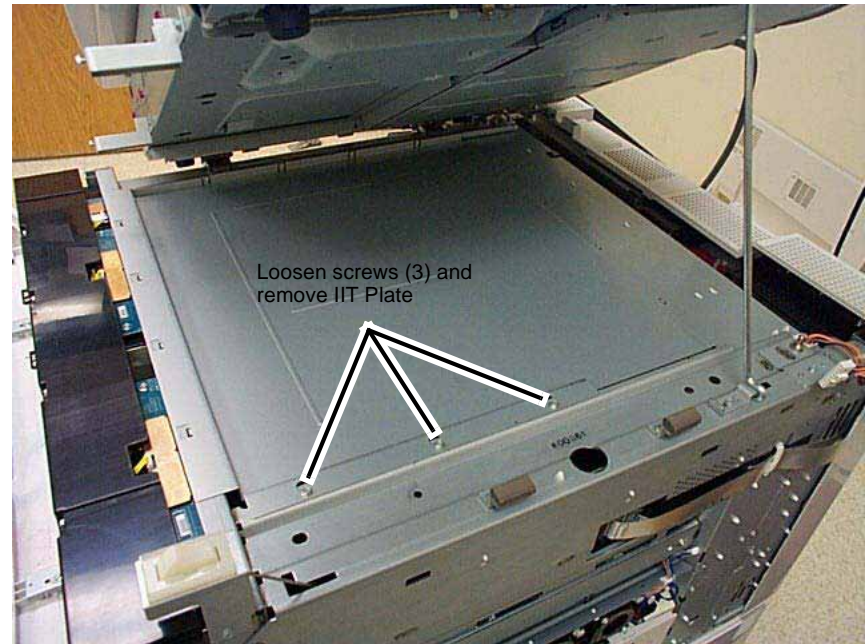

Figure 2 Removing the IIT Plate
5. Remove the IIT Plate (Figure 2).